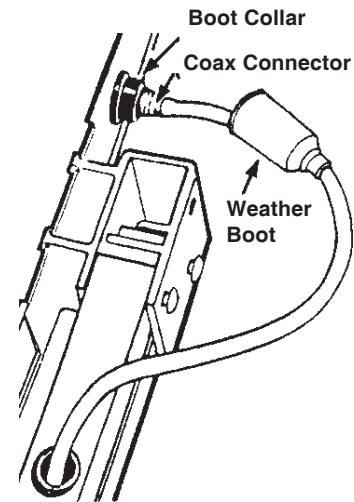

FIGURE 7
STEP 7: Attach coax connector to jack on back of antenna head, slide weather boot into place over boot collar as shown in Figure 7.